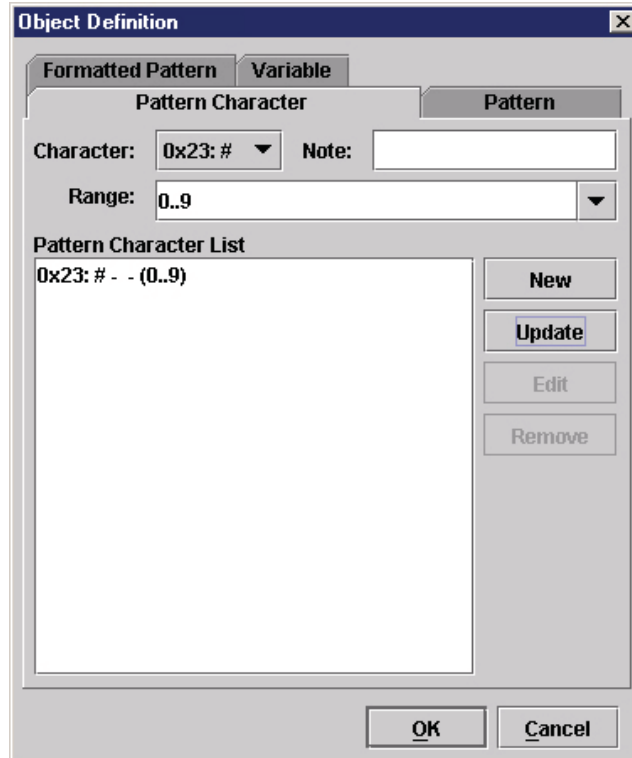

Figure 152 Defining a Pattern Character
5. Click **Add** to add the pattern character to the list. See Figure 152.